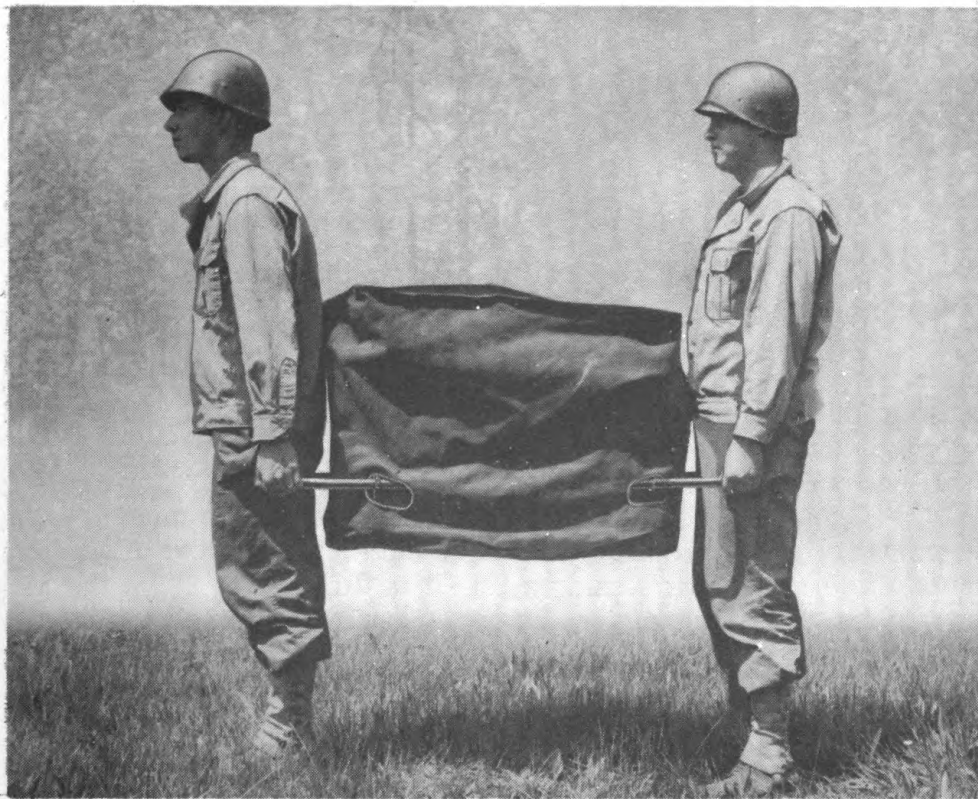
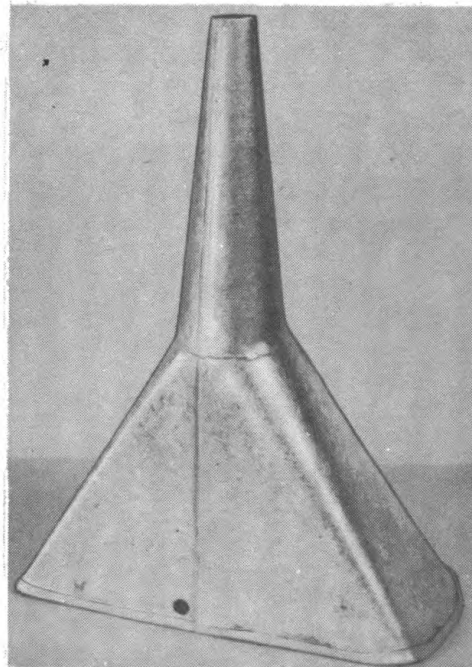

Fig 11. M2 generator with cover in place and handle grips extended.
Fig 13. Flat-sided funnel provided with M2 smoke generator.
(1) Greater mobility. Whereas the M1 generator must always be moved on a vehicle, the M2 can be carried for short distances by two men as shown in figure 11. It is difficult to move the M1 on any but firm terrain, while the M2 can be adapted to practically any terrain.
(2) Greater speed. Owing to mechanical improvements, the M2 generator produces an effective streamer of smoke in from 30 seconds to 1 minute after engine is started in contrast to the 3 to 6 minutes or more required to warm up the M1 generator.
(3) Greater simplicity. The M2 generator is simpler to operate and maintain.
b. Accessories. Normally one olive drab, water-resistant canvas cover for protecting generator (fig 11), one funnel (fig 13), two spare spark plugs, and one instruction manual are issued with each unit.